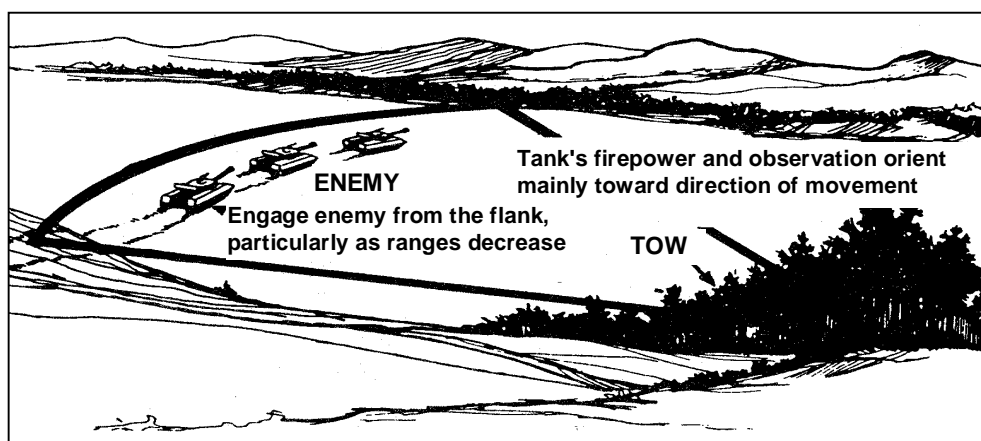

Figure 5. Provide for flank engagement.
4. Provide for flank engagement. Avoid TOW frontal fire against tanks, since the TOW crew is vulnerable, especially at shorter ranges. The firepower and observation of an advancing enemy tank are oriented to the front. Therefore, detecting and tracing a missile launched from its flank is difficult (Figure 5). However, a trailing enemy tank may see the launch signature or crew movement, and stalk or destroy the weapon from the rear. Thus, in addition to firing from the flank, the crew must site the weapon so that it is in *defilade* when viewed from the direction of the enemy. Also, the crew must put something between itself and the tanks—something the tanks are unlikely to shoot at. This could include a parapet, a wall, or natural cover. Flank concealment is necessary, but flank defilade, which provides cover from fire, is preferred. Concealment of flash is also essential, not only from the following tanks, but also from the enemy's OP.